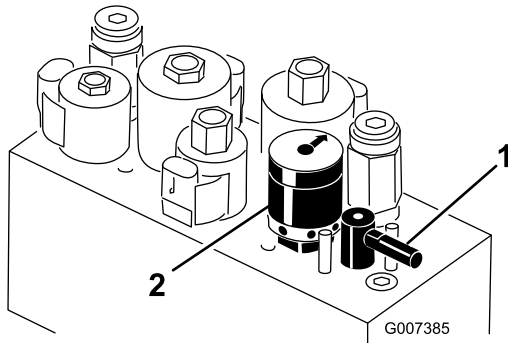

Figure 58
5. Rotate the Backlap Lever to the "R" position (Figure 58).
6. Rotate the Reel Speed Control to setting 1 (Figure 58).